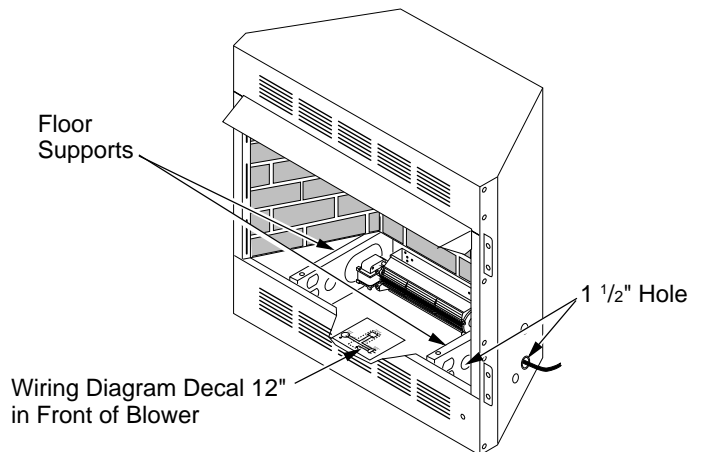

Figure 12 - Location of Wiring Diagram Decal
13. Peel off the backing paper and stick the supplied wiring diagram decal on the firebox bottom approximately 12" in front of the blower (see Figure 12, page 4).